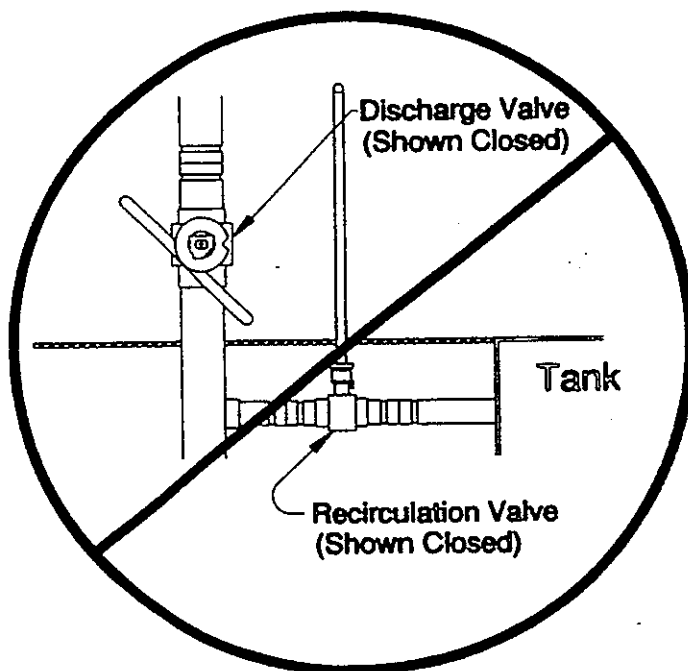

Figure 1
**WARNING:** Never engage the slurry pump clutch when both valve handles are positioned as shown Figure 1. Both valves are closed and will result in extreme heat generation that will cause damage or bodily injury if the slurry pump is running.